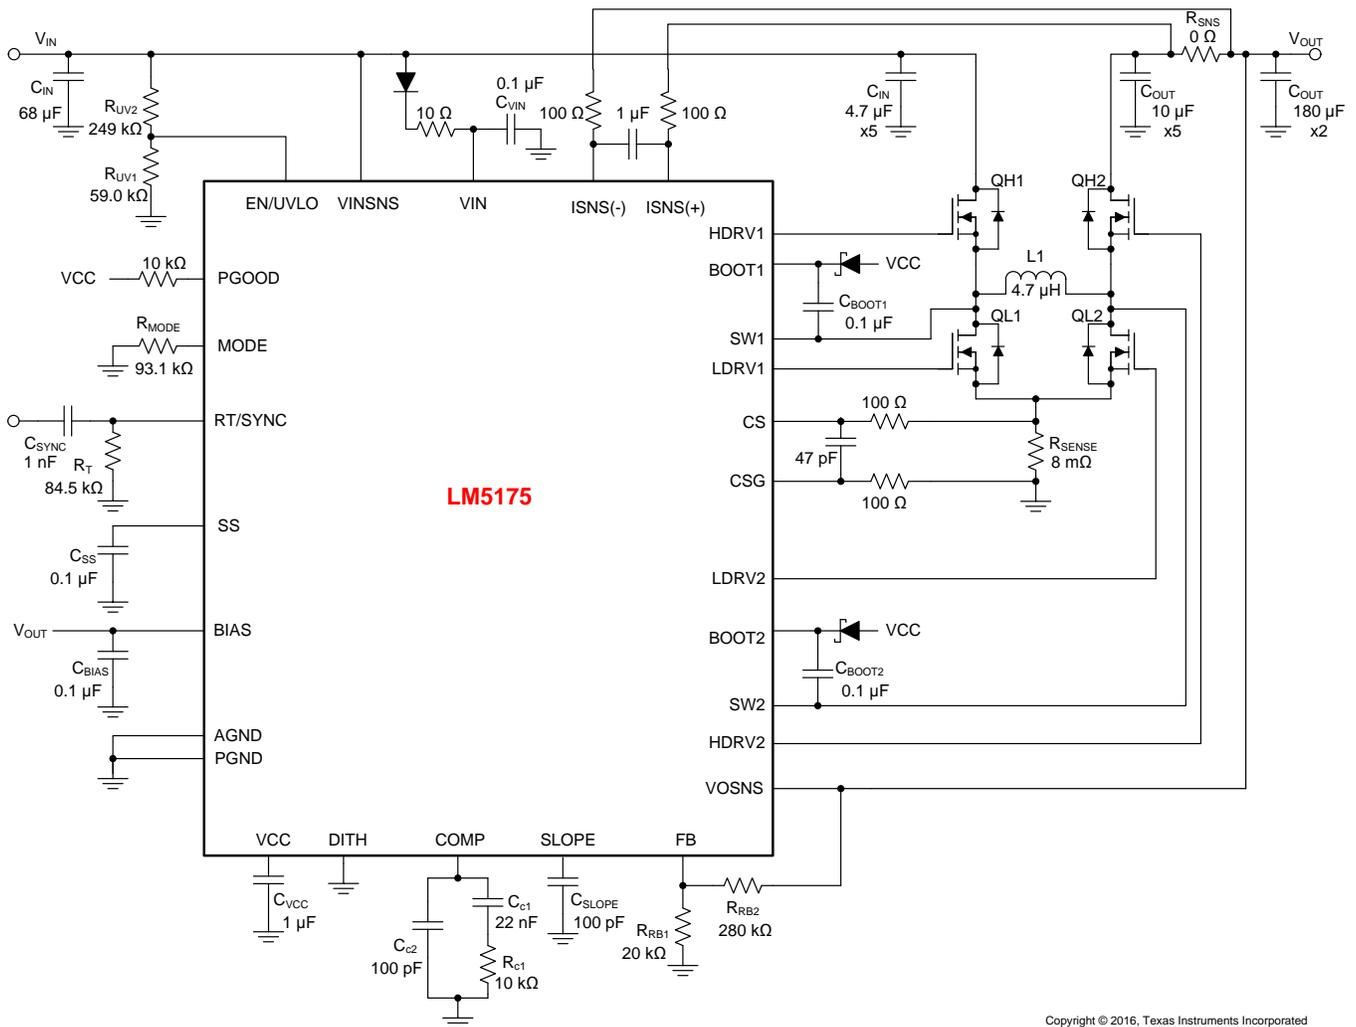

Figure 24. LM5175 Four-Switch Buck Boost Application Schematic
The LM5175 has a gm error amplifier for loop compensation. The gm amplifier output (COMP) range is 0.3 V to 3 V. Connect an R_{C1} - C_{C1} compensation network between COMP and ground for type II (PI) compensation (see Figure 24). Another pole is usually added using C_{C2} to suppress higher frequency noise.
The low-side gate drivers are powered from VCC and the high-side gate drivers HDRV1 and HDRV2 are powered from bootstrap capacitors C_{BOOT1} (between BOOT1 and SW1) and C_{BOOT2} (between BOOT2 and SW2) respectively. The C_{BOOT1} and C_{BOOT2} capacitors are charged through external Schottky diodes connected to the VCC pin as shown in Figure 24.
Typically a combination of ceramic and bulk capacitors is needed to provide low ESR and high ripple current capacity. The complete schematic in Figure 24 at the end of this section shows a good starting point for C_{OUT} for typical applications.
The maximum RMS current occurs at $D = 0.5$, which gives $I_{CIN(RMS)} = I_{OUT}/2 = 3 \text{ A}$. A combination of ceramic and bulk capacitors should be used to provide short path for high di/dt current and to reduce the output voltage ripple. The complete schematic in Figure 24 is a good starting point for C_{IN} for typical applications.
For some application circuits, it may be required to add a filter network to attenuate noise in the CS and CSG sense lines. Please see Figure 24 for typical values. The filter resistance should not exceed 100 Ω .